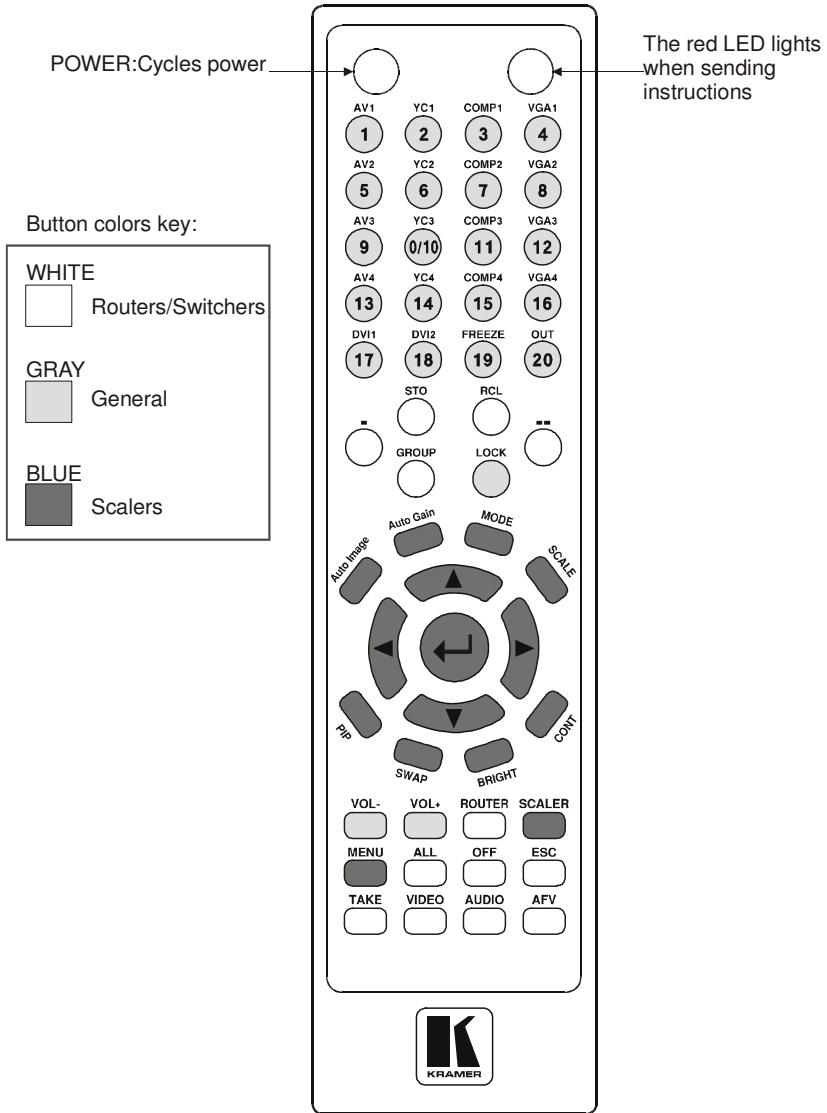

Figure 1: RC-IR2 Remote Control Transmitter
- Is a hand held infra-red remote control transmitter¹ that includes the protocols of all Kramer devices and is programmable to control any Kramer machine (see Figure 1)
Figure 1 and Table 1 define the **RC-IR2** remote control transmitter: